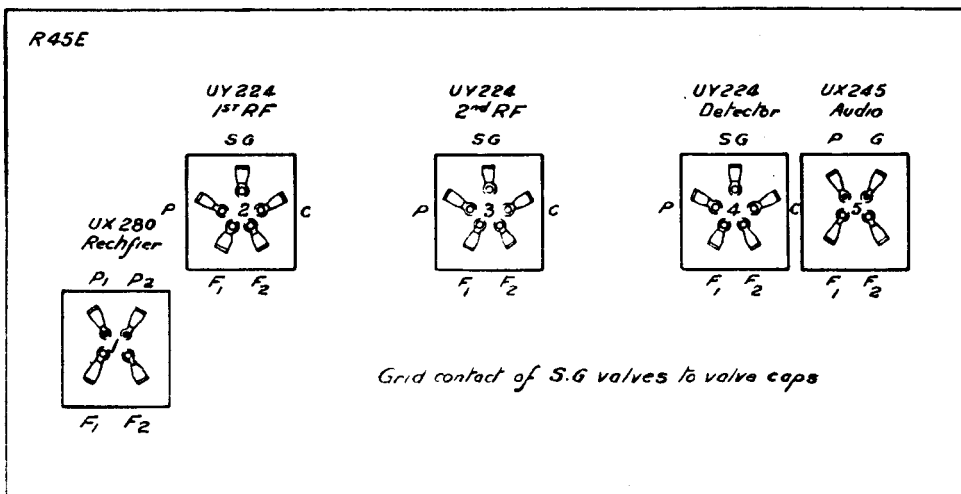

Fig. 6. Valve Sequence and Position of Valve Contacts, Radiola 45E.
- VOLTAGE TEST.** After removing the chassis from the cabinet, make the following voltage tests across the valve sockets with all the valves in position and with the loudspeaker connected and the chassis turned upside down. Fig. 6 shows the relative position of the valve contacts, the valves being shown in their correct sequence looking down on the upturned chassis from the back of the Radiola.